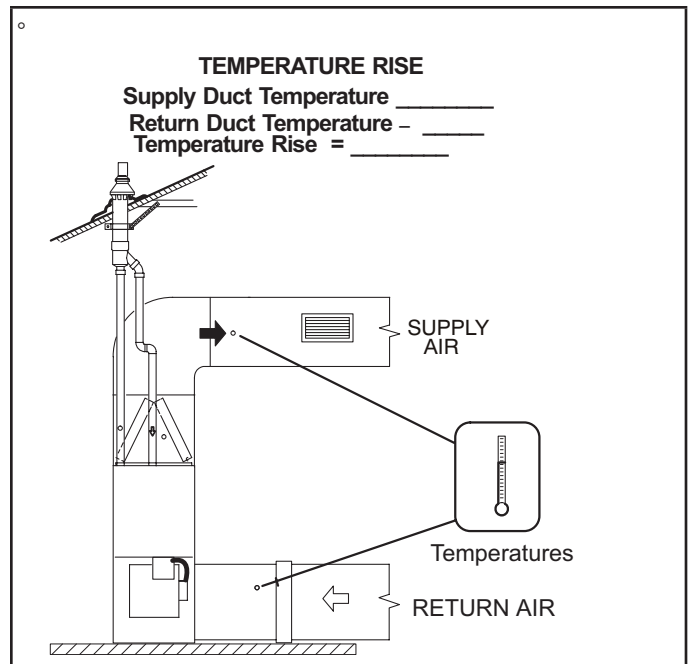

FIGURE 55
- 1 - Tap locations shown in FIGURE 55.